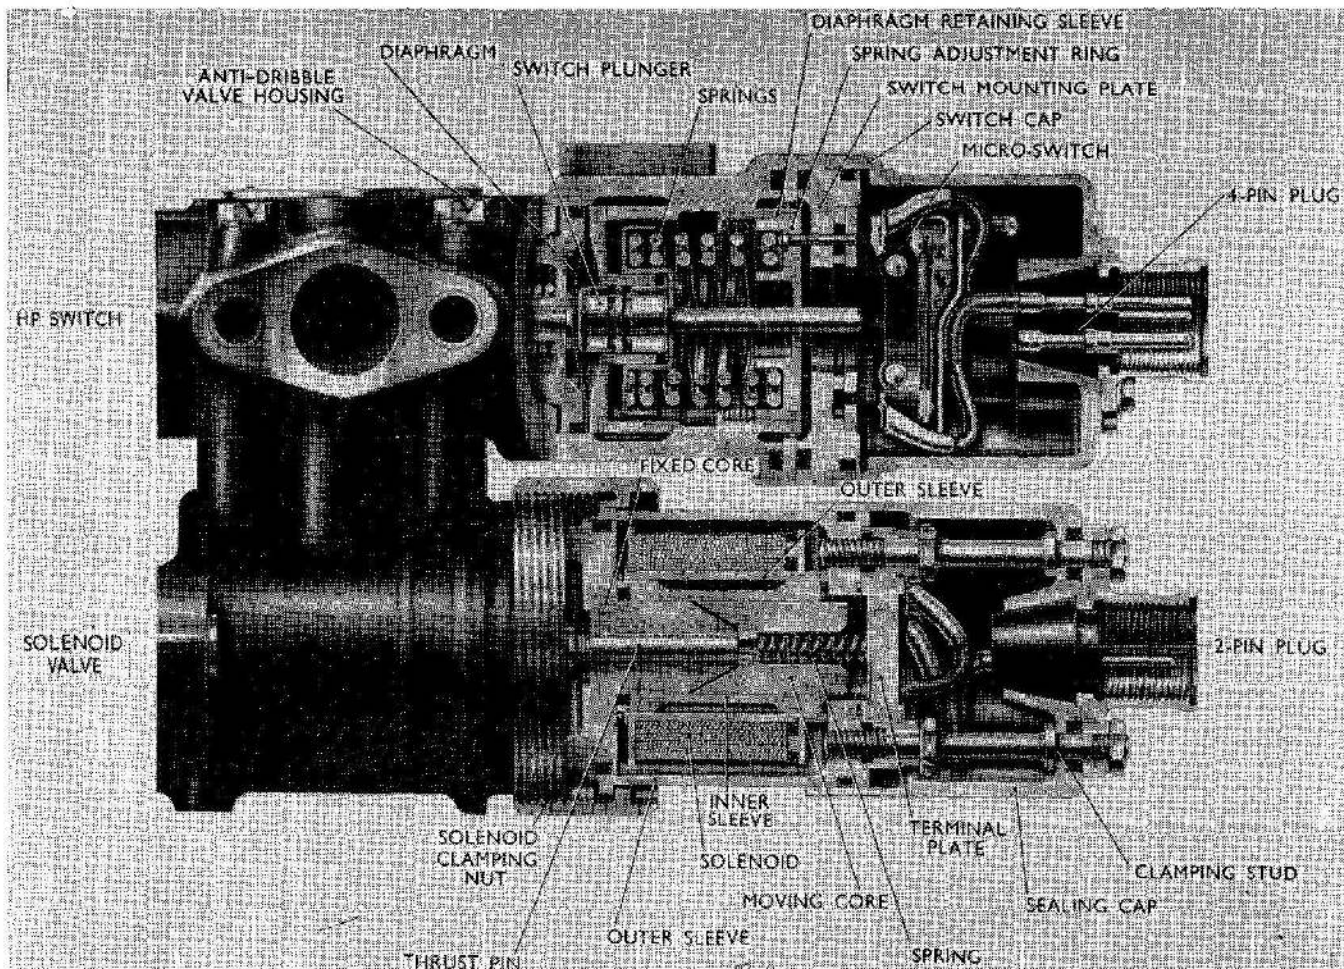

Fig. 1 Sectional view of high pressure switch and solenoid valve
solenoid valve assembly, having an inner and an outer sleeve, a bobbin assembly, a moving core and a fixed core (*fig. 1*).
4. The bobbin is fitted over the inner sleeve, while the outer sleeve forms part of the casing, providing a seating for the terminal plate at one end and, at the other, the lip by which the clamping nut secures the solenoid assembly to the valve casting (*fig. 1*).
6. Electrical connections to the solenoid are made through a two pin plug, wired internally to the terminal plate, and from the terminal plate to the bobbin of the solenoid. The plug is secured by the studs which retain the terminal plate to the outer sleeve of the solenoid valve (*fig. 1*).